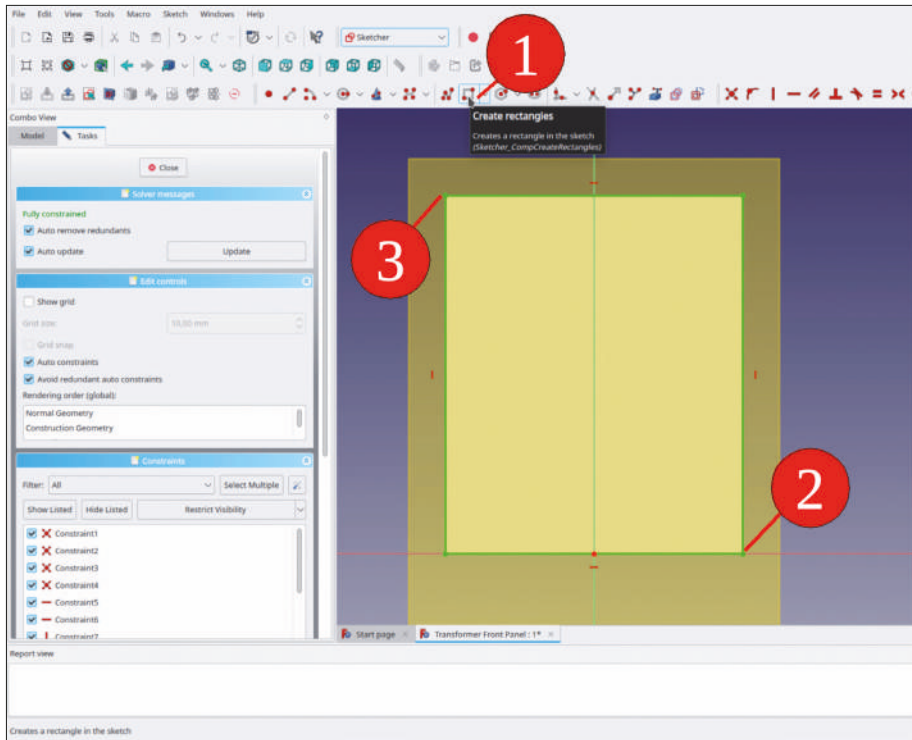

Figure 9-11
12. Click on the 'Create a rectangle' tool button and draw a rectangle locked onto the two endpoints of the construction geometry (Figure 9-11). Close the sketch.